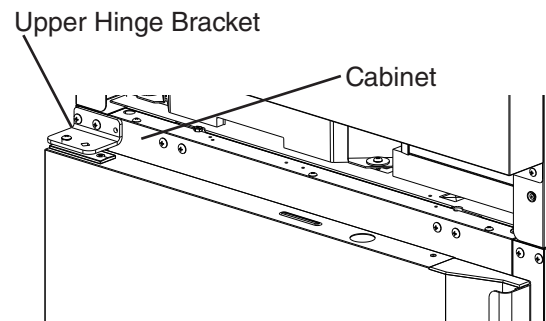

Fig. 25
- 10) Secure the upper hinge bracket to the appliance. See Fig. 25.